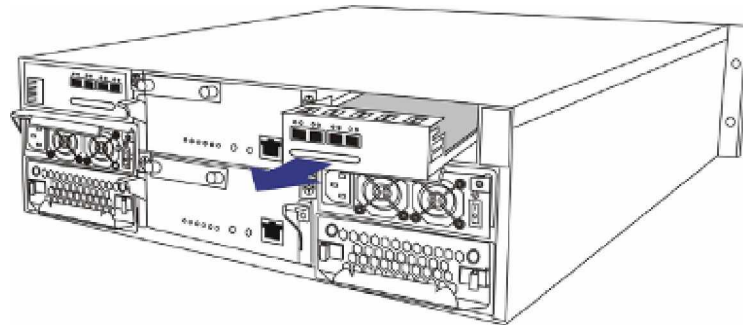

Figure 5-15: Removing the Host Connection Module
**Step 3.** Pull out the faulty host connection module and place it on a clean surface. (See Figure 5-15)